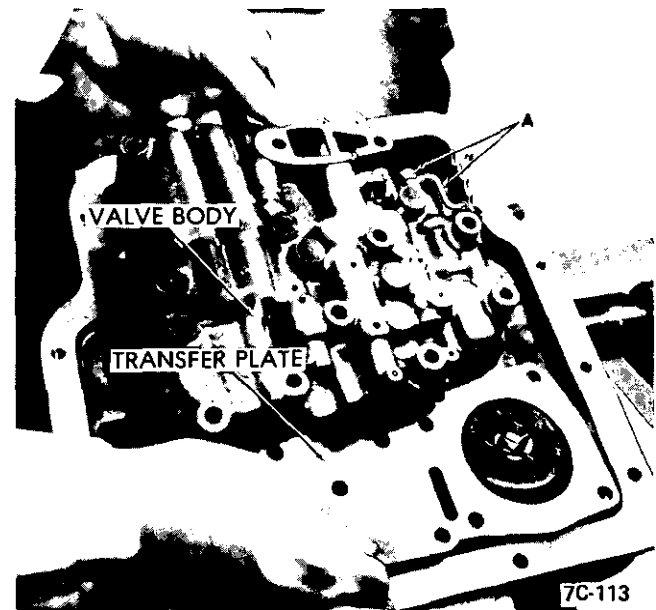

Figure 7C-231
6. Install small end of manual valve link "A" into selector lever and install valve body and transfer plate assembly over guide pins. See Figure 7C-231.